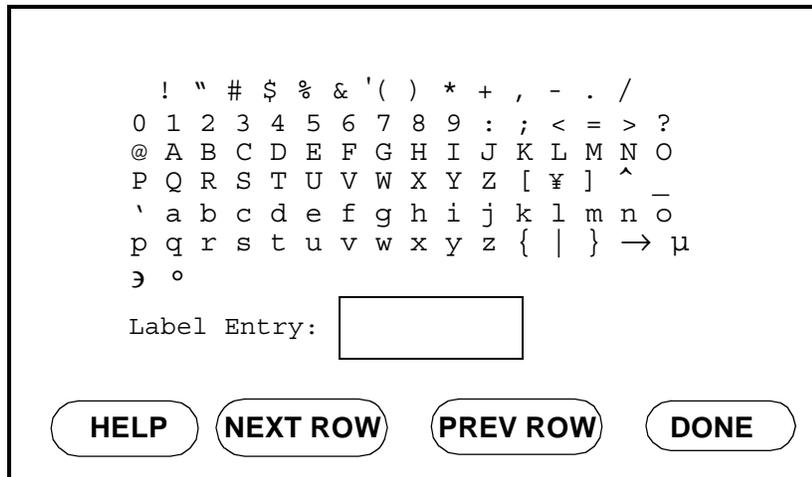

Figure 2-19: Label Entry Menu
2. Press the TAG menu key. The Label Entry Menu appears as shown in Figure 2-19 below. The screen displays a table of the character set available, an Edit Box and four menu options.